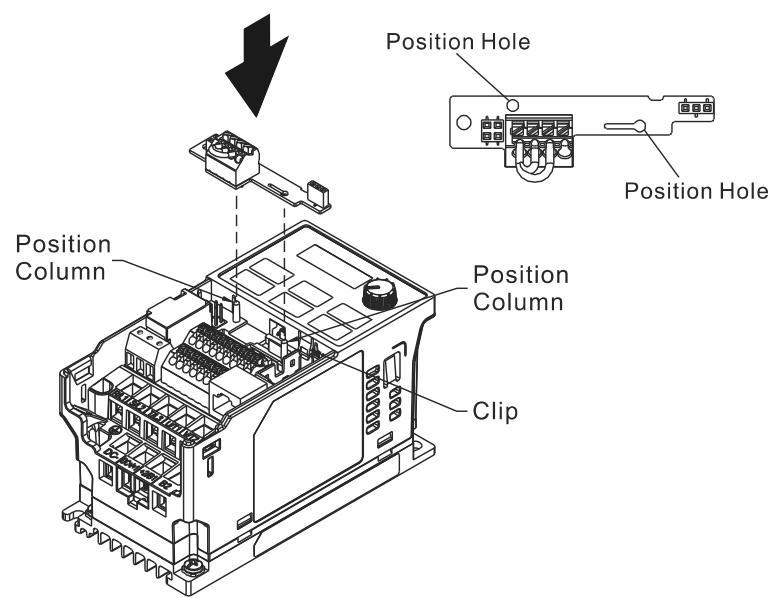

Figure 8-2
2. Mounting the connector: as shown in Figure 8-2, aim the adapter(option card) at the connector on the control board, and then insert it to the connector.